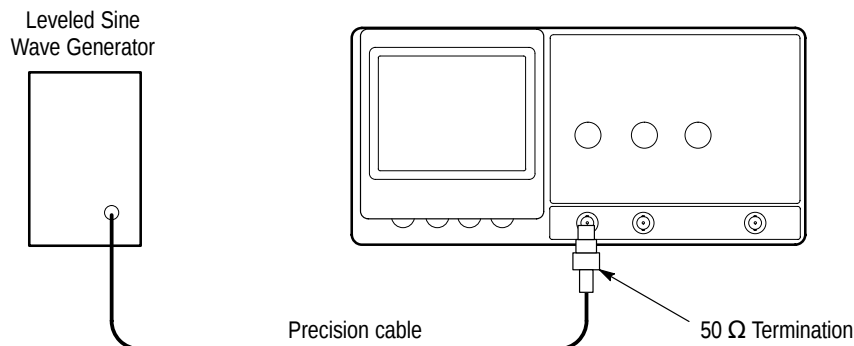

Figure 3: Bandwidth Check Setup
1. Use the 50 Ω precision coaxial cable to connect the output of the leveled sine wave generator to the 50 Ω termination; then connect the 50 Ω termination to the TAS 200 series oscilloscope CH 1 (CH 2) input. See Figure 3 below.